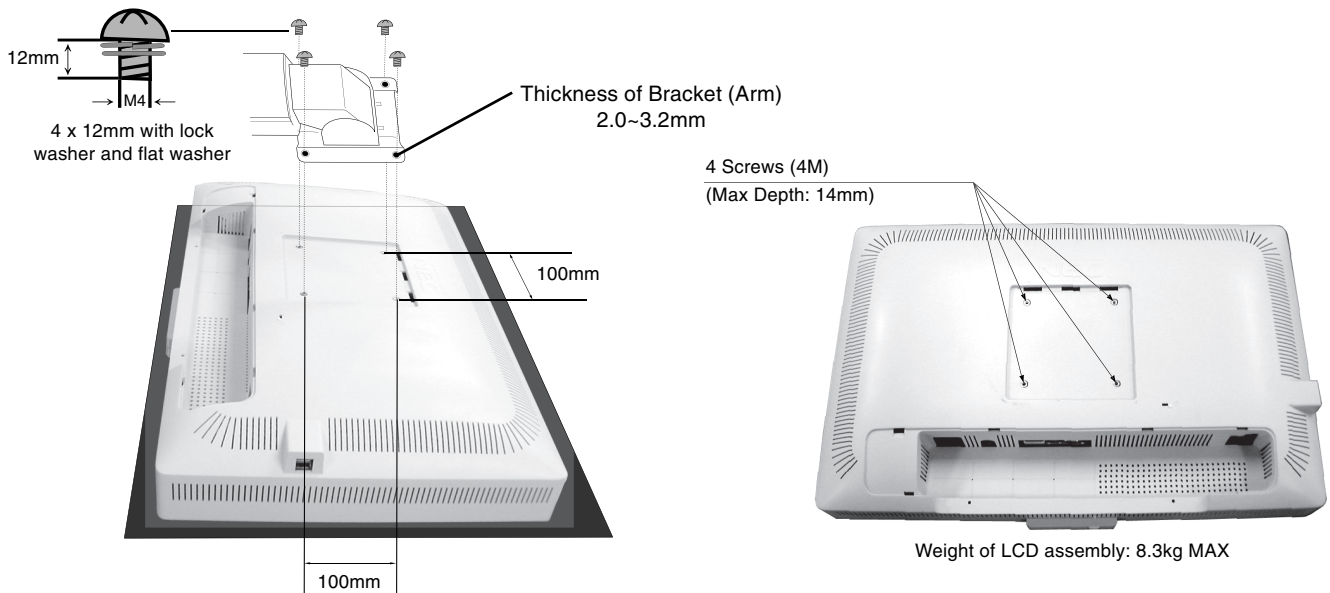

Figure F.1
2. Using the 4 screws to attach the arm to the monitor (**Figure F.1**).